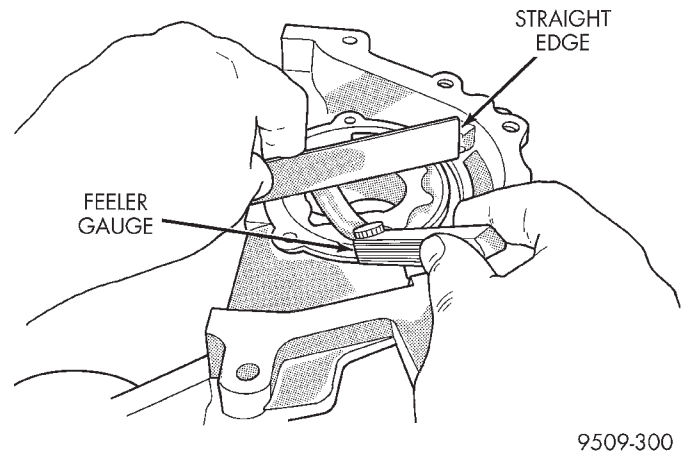

Fig. 105 Measuring Clearance Over Rotors
(7) Place a straightedge across the face of the pump housing, between bolt holes. If a feeler gauge of 0.102 mm (0.004 in.), or more can be inserted between rotors and the straightedge, replace pump assembly (Fig. 105), **ONLY** if rotors are in specs.
(8) Inspect oil pressure relief valve plunger for scoring and free operation in its bore. Small marks may be removed with 400 grit wet or dry sandpaper.
(9) The relief valve spring has a free length of approximately 60.7 mm (2.39 inches) it should test between 18 and 19 pounds when compressed to 40.5 mm (1.60 inches). Replace spring that fails to meet specifications.